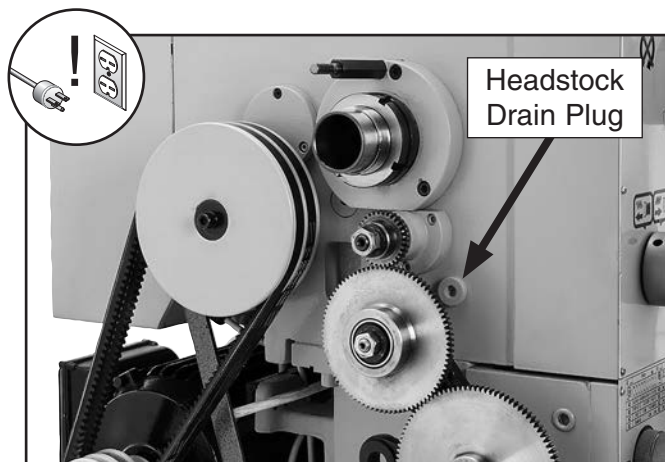

Figure 110. Location of headstock drain plug.
5. Place 2-gallon catch pan under headstock drain plug (see **Figure 110**), then remove drain plug with 8mm hex wrench.